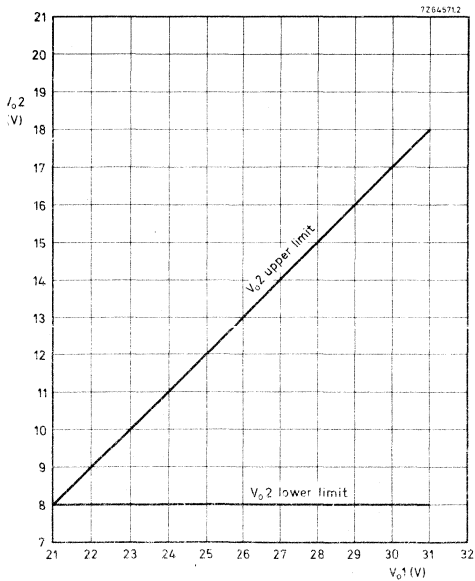

Fig. 3. Range of values for V_{02}
10. V_{O2} depends on the value of V_{O1} (see Fig. 3); adjustable with RA2.